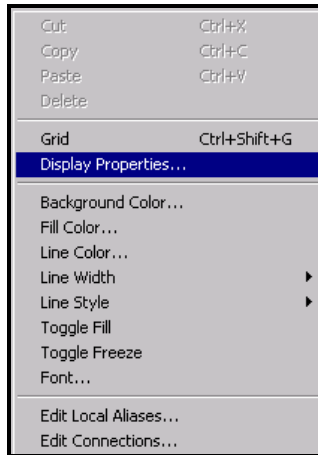

Figure 5.40
3. The first thing we need to do is to setup the **Display Properties**. Right-click anywhere on the GraphWorX32 display and select **Display Properties** as shown in **Figure 5.40**.